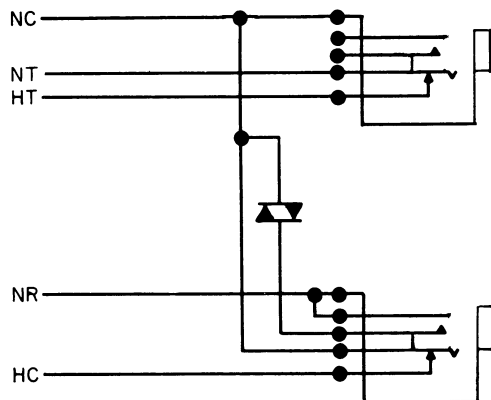
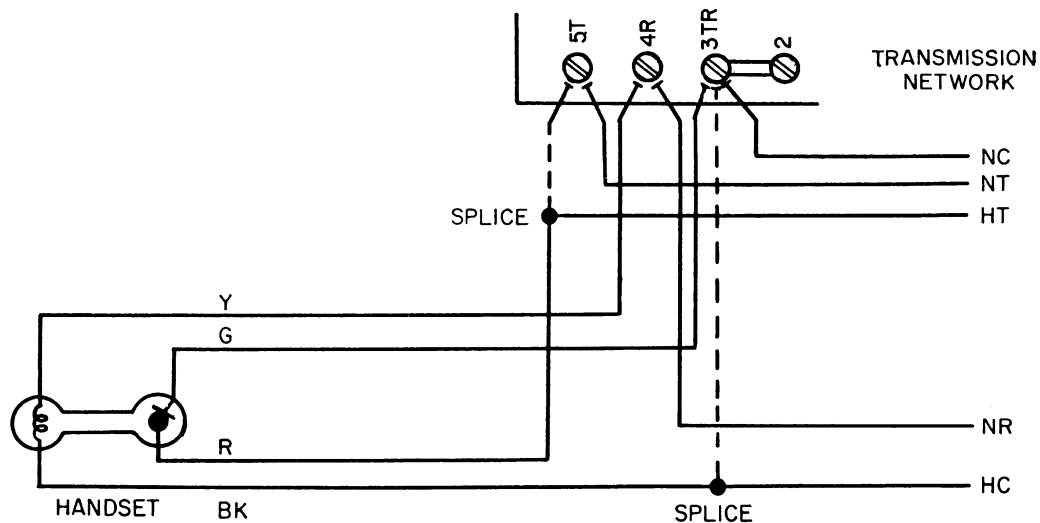

Figure 3. Jack Box Kit Schematic Diagram.
Figure 4. Connection Diagram of a Standard Auxiliary Headset Installation on a Type 80 Dial Telephone.
1.03 The standard arrangement of the auxiliary headset consists of an operator's headset and the jack box kit shown in Figure 2. The schematic of the jack box kit is shown in Figure 3. Insertion of the headset cord plugs into the jacks automatically disconnects the elements of the telephone handset, and connects the transmitter and receiver of the auxiliary headset in their place. Plugging in the headset when using the standard jack box kit, does not take over the function of the associated telephone hookswitch. Therefore, the handset of the associated telephone set must remain off-hook when the auxiliary headset is being used.
- (1) Install the associated dial telephone set according to the appropriate section in this division of General System Practices.
- (2) Assemble the jack box kit as follows:
- (b) Using 10-conductor, 26 AWG stranded cordage of adequate length to reach to the associated telephone set from the final location of the jack box, wire and solder the jacks as shown in Figure 3. Leave sufficient slack to permit moving the telephone set about its area of location.
- (3) Using mounting hardware appropriate for the type of mounting surface, mount the jack box in the desired location.
- (4) Remove the telephone set housing.
- (5) Terminate the free end of the cordage leads with pressure-crimped spade lugs, and connect to the associated telephone set as shown in Figure 3 and Table 1 (as appropriate). Refer to Figure 4 for a typical example of the wiring at the telephone set transmission unit.